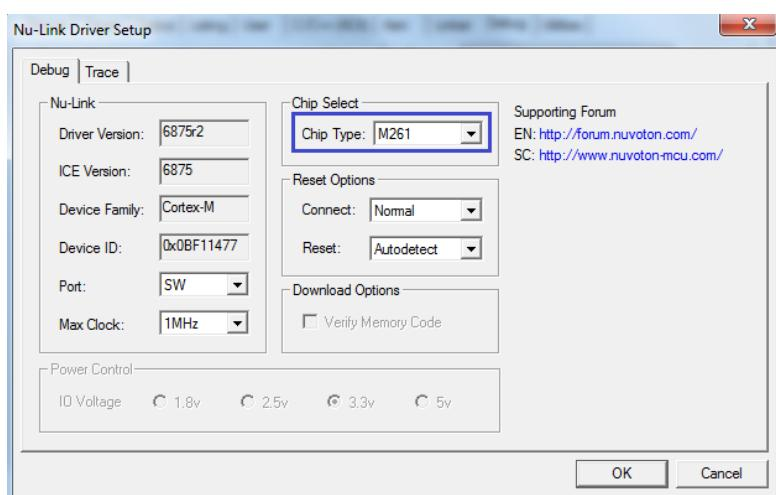

Figure 3-2 Select Chip Type
2. Click “Option”->“Debug”->“Settings” button to enter the debug setting page then select “Chip Type” as M261, as shown in Figure 3-2.